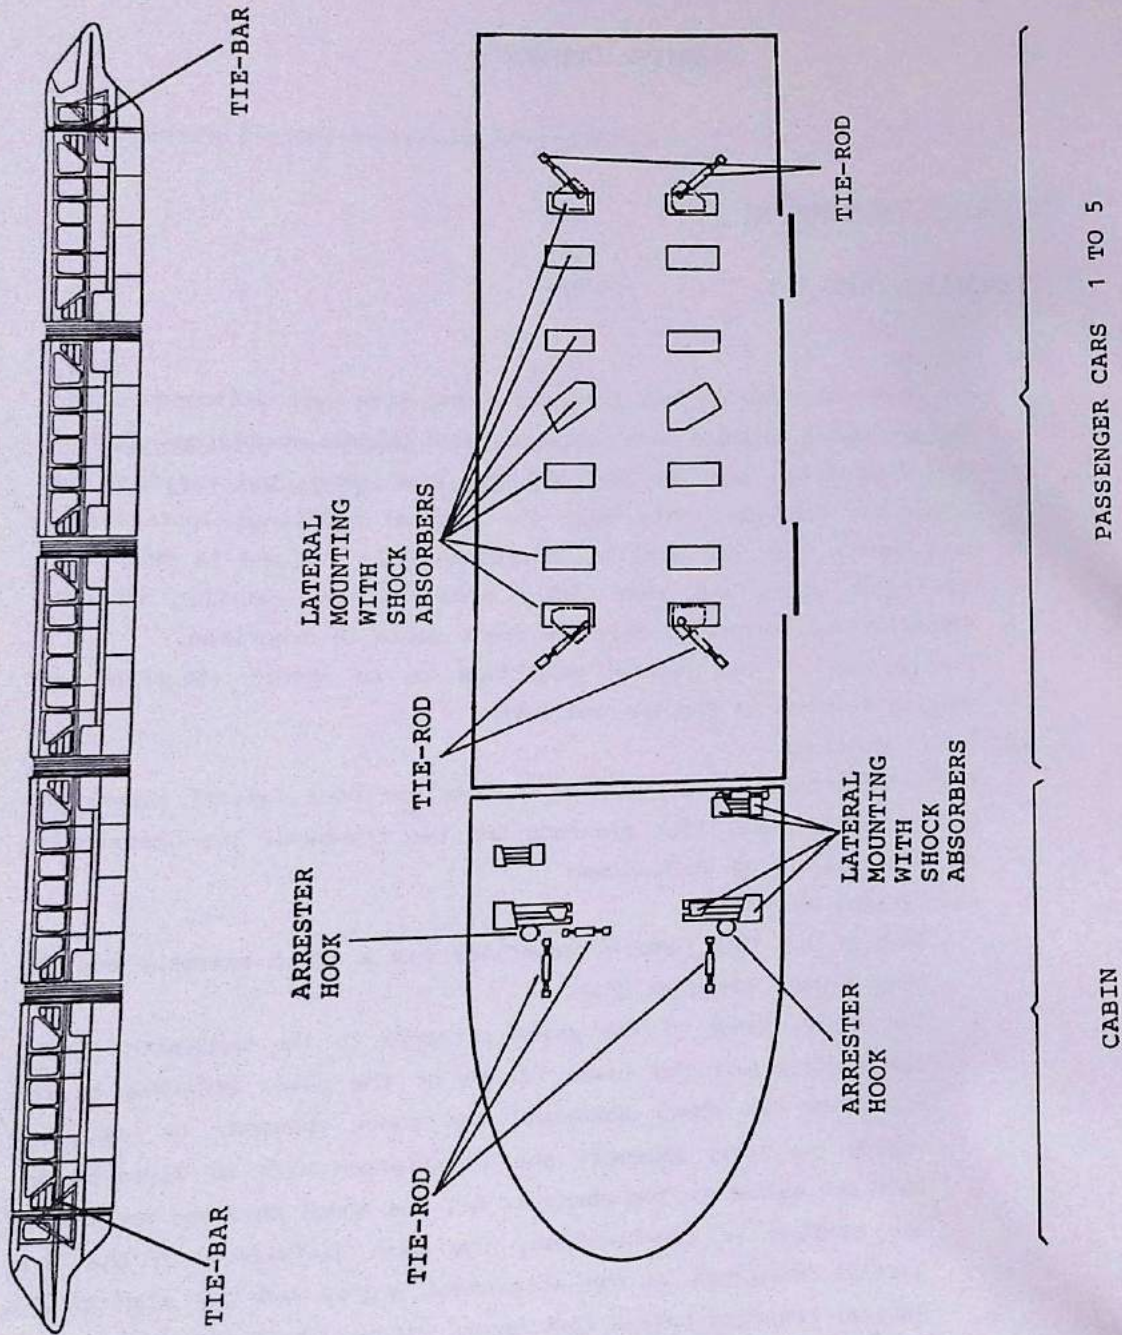

Fig. 1 - Mounting Equipment - General Arrangement
1. Description and OperationA. Description (Fig. 1)